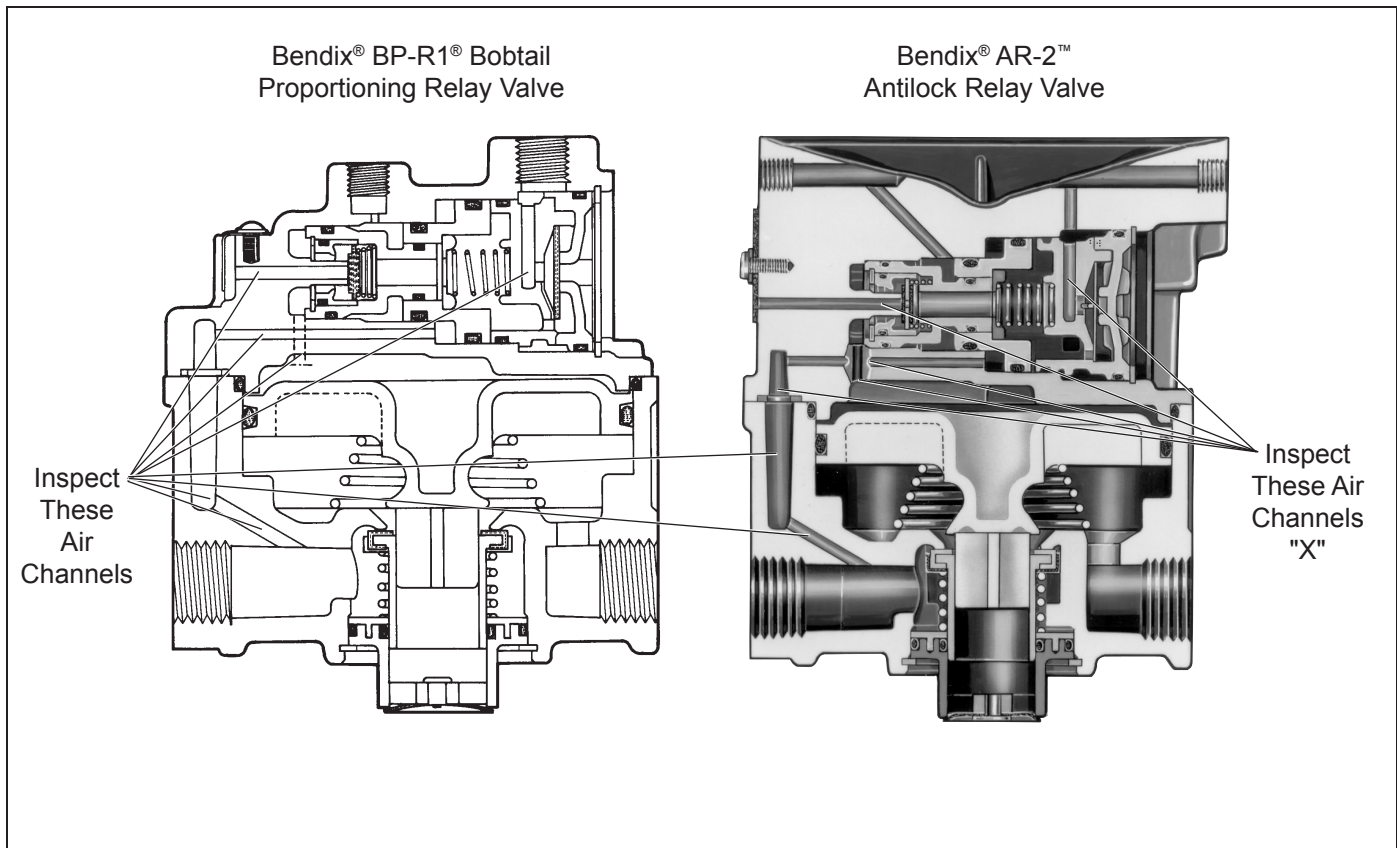

Figure 3 – Sectional View
12. Remove and discard the spring (14) then remove and retain the spring cage from the valve cover.
14. **Remove and discard the entire, assembled proportioning piston (18) from the valve cover.** *NOTE: Removal of the proportioning piston is made easier if shop air is applied to the "inside air passage" of the cover as shown in *Figure 3* point "X".*